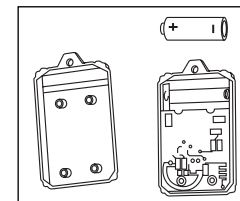

Fig. 7
1. Remove 4 screws from back of transmitter and install one 12v, 23AE alkaline battery. (Fig. 7)